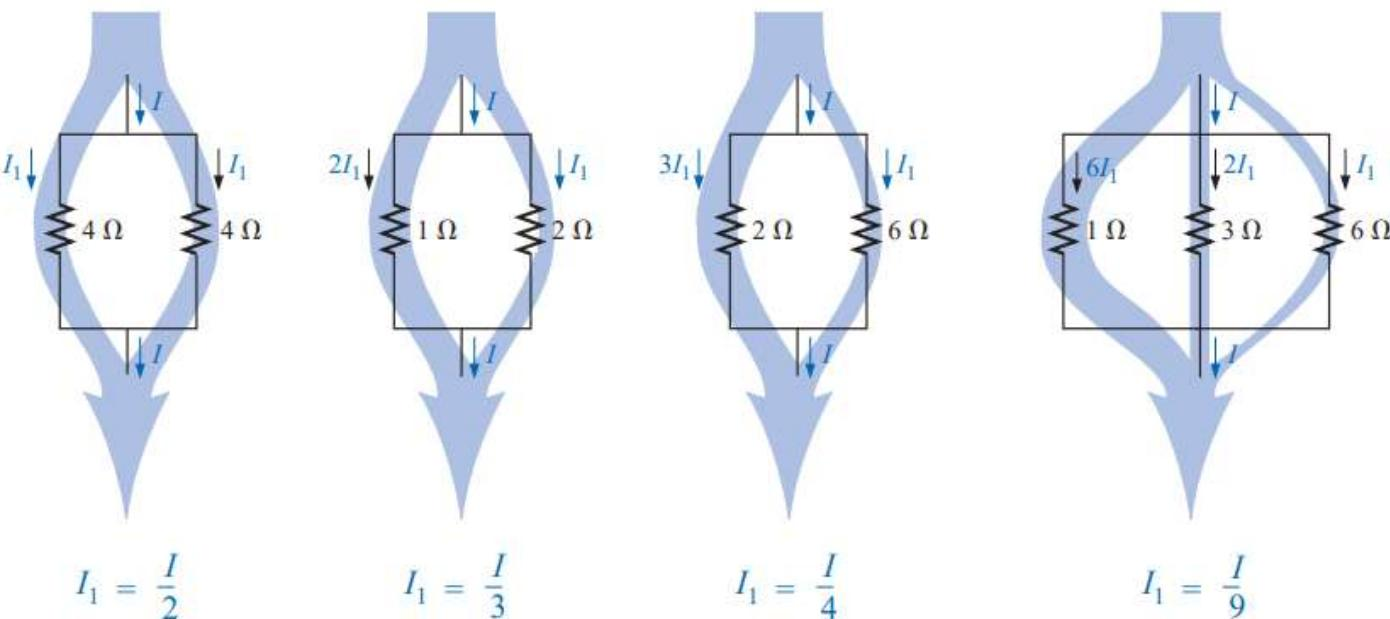

FIG. 6.39
2. The current entering any number of parallel resistors divides into these resistors as the inverse ratio of their ohmic values. This relationship is depicted in Fig. 6.39.